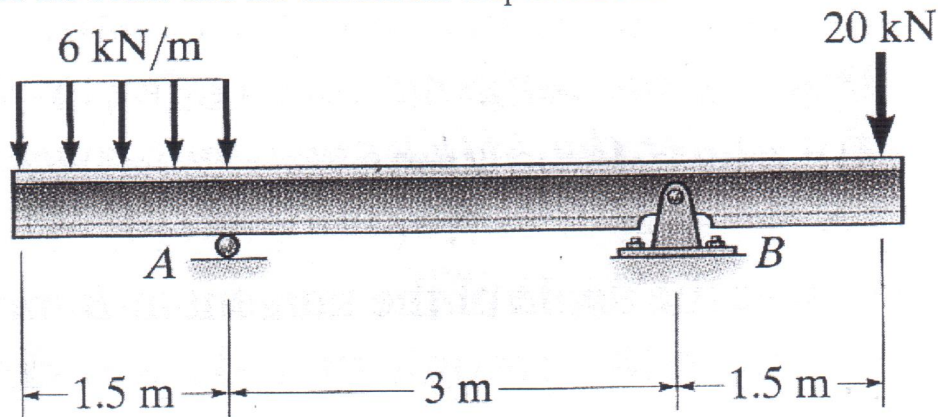

Figure 3.
- (3) For the loaded beam shown in **Figure 3** derive the equation of the elastic curve. EI is constant. Determine, in terms of EI , the displacement at the both ends of the beam and the maximum displacement.